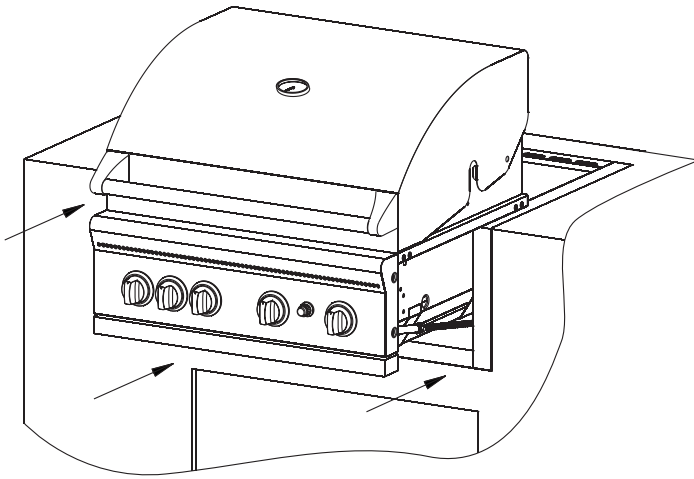

Figure 4
4. Slide grill head with flex gas line attached into surround. Make sure flex gas line is protruding out surround side. See Figures 4 and 5.